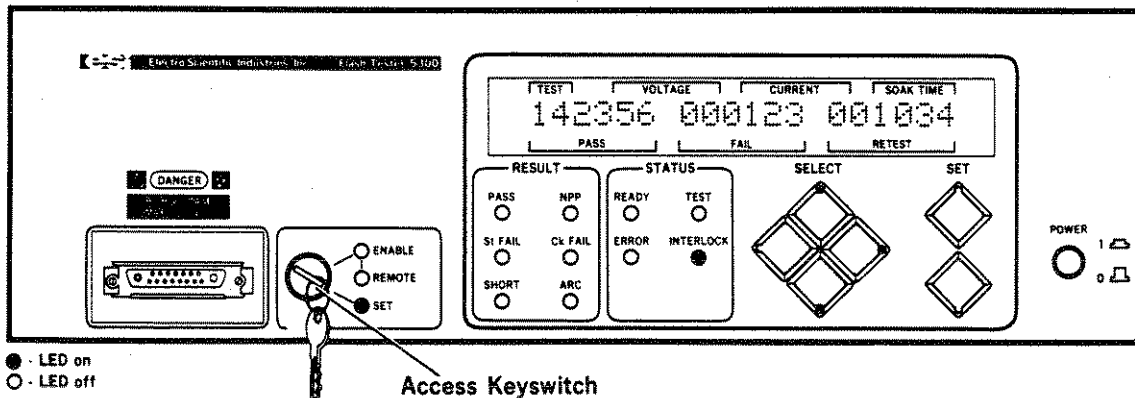

Figure 3-22. Set Mode Display
- STEP 1. Enter the Set mode by turning the access keyswitch from the ENABLE position to the SET position. Refer to Figure 3-22 for the location of the access keyswitch.
- STEP 2. When the system enters the Set mode, the SET LED should illuminate. Refer to Figure 3-22 for an example of this mode.